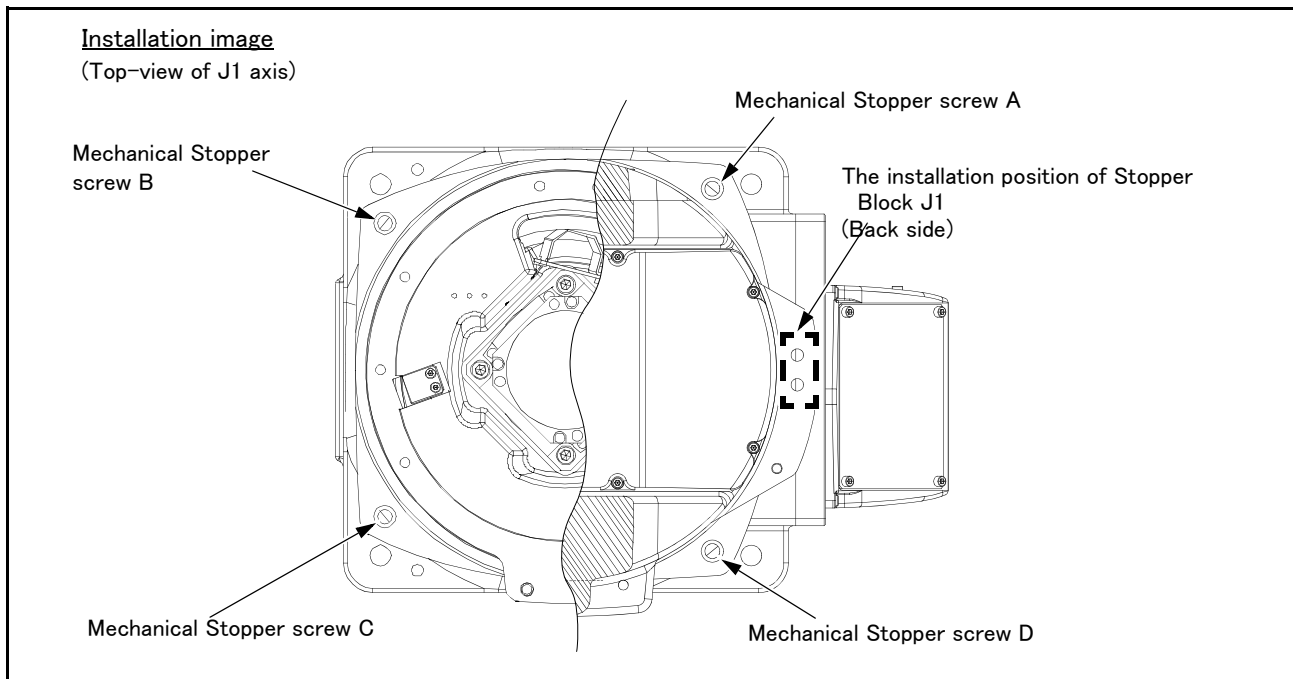

Fig.3-4 : Installation image of J1axis operating range change option (RV-13FR series)
Note1) Symbol: “(A)” – “(D)” in the Table 3-11 is related with the symbol of “Fig. 3-4: Installation image of J1 axis operating range change option (RV-13FR series)”.
- 4) Install the <3> Mechanical Stopper screw. Install the <3> attached Mechanical Stopper screw to the needed point with referring to Table 3-11 and Fig. 3-4.